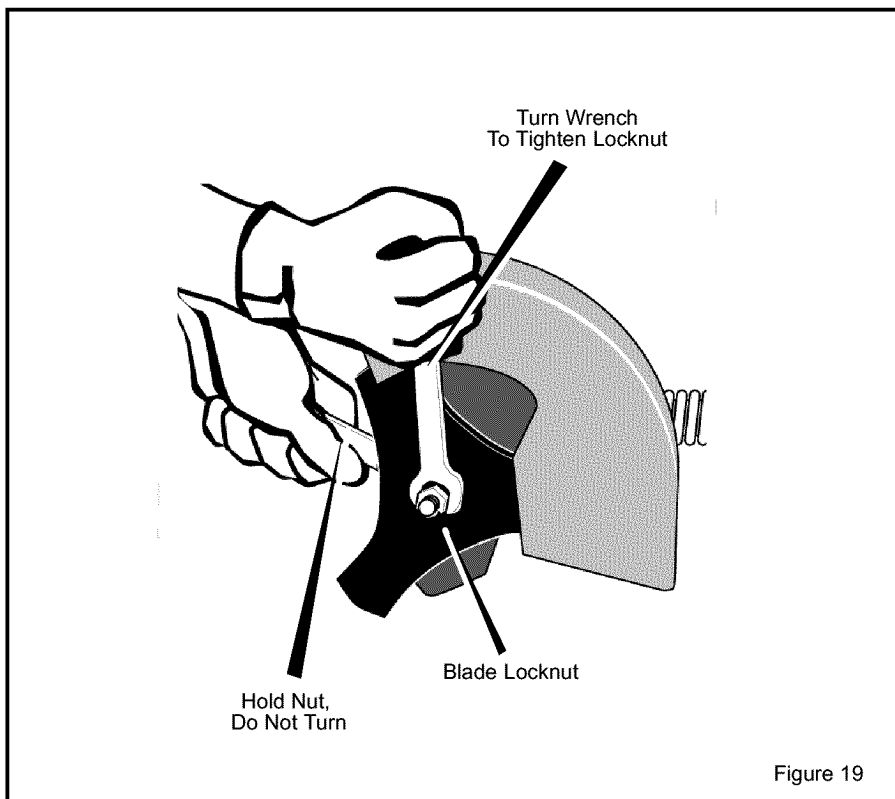

Figure 19
**WARNING: To remove or tighten the blade locknut, always use the method shown in Figure 19. Always position the holding wrench on the nut behind the blade.**